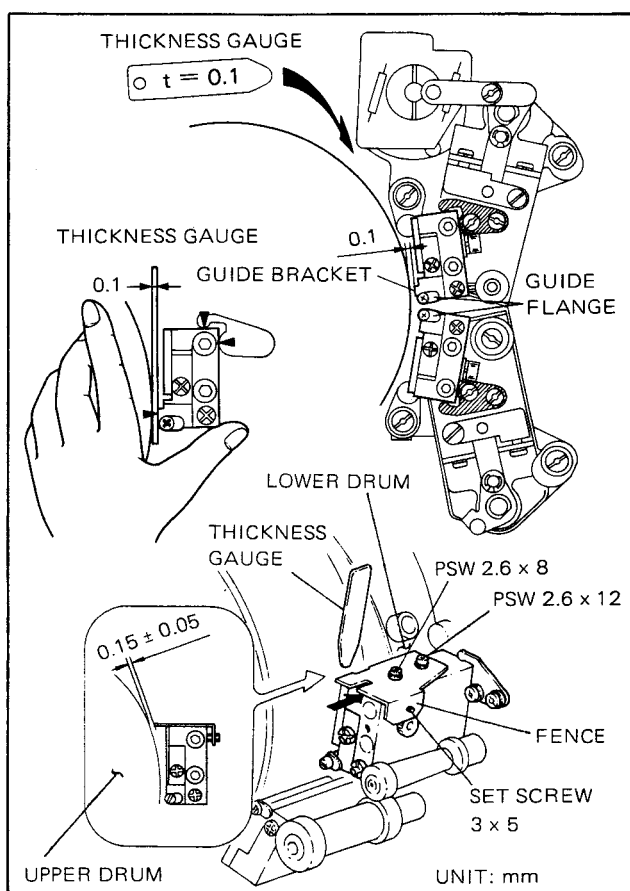

Fig. 3-16-1. Entrance Slant Guide Assy Position Adj.
While holding the entrance slant guide assembly so that the assembly contacts with three points marked with ▲ in Fig. 3-16-1, tighten the two screws securely.
- ① While pushing the fence in the direction shown by arrow in Fig. 3-16-1 and also pushing it toward the lower drum so that the lower of the fence touches the cylinder of lower drum, and lightly fix the fence with two screws PSW 2.6 × 12 and PSW 2.6 × 8.
- ② Adjust the setscrew so that the clearance between the upper drum and the fence is 0.15 ± 0.05 mm. After adjustment, securely tighten the screws which were tightened loosely in the former step.
- ③ Confirm that the tip of the setscrew touches the entrance slant guide block, and glue the setscrew tightened in step 2 with adhesive like a retaining compound.